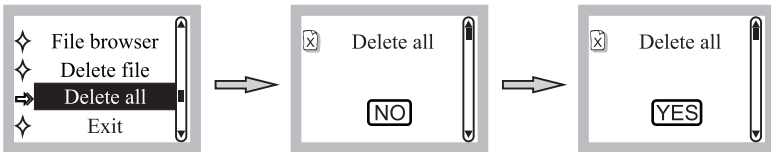

Fig. 27
- (3) Delete All: Press **▶|** to enter the “Delete all” screen. Press **◀◀** or **▶▶** to select “NO” or “YES”. Press **▶|** to confirm, Fig. 27.